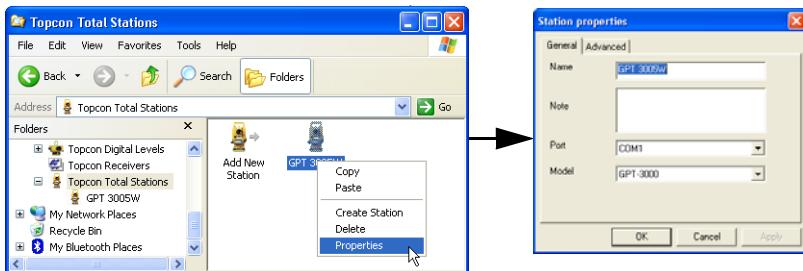

Figure 2-48. Changing the Total Station Properties
4. A new icon for the Total Station displays (Figure 2-48 on page 2-29) in the right panel. A new sub-folder is created in the *Topcon Total Stations* folder of Windows Explorer. To change the properties (communication parameters, name, model, and so on) for this Total Station, right-click on the icon and select **Properties** on the pop-up menu. The *Station Properties* dialog box for the Total Station is identical to the *Create Station* dialog box for a new Total Station.